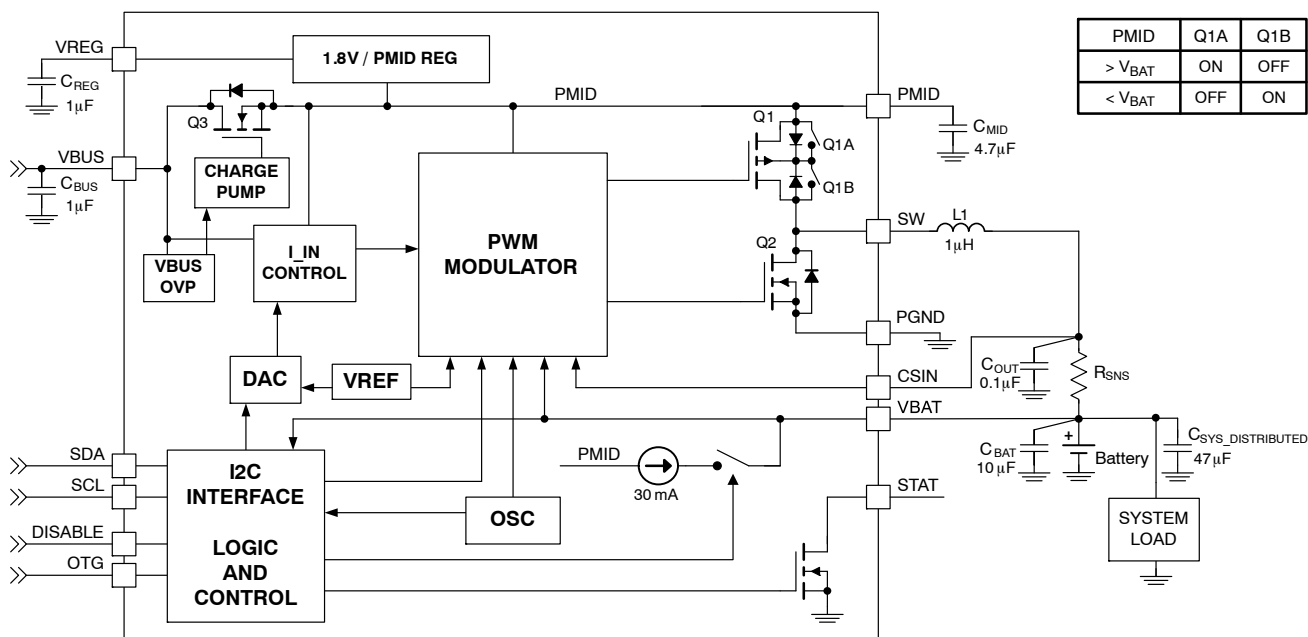

Figure 2. IC and System Block Diagram
1. A 10 V rating is sufficient for CMID because PMID is protected from over-voltage surges on VBUS by Q3 (Figure 2).